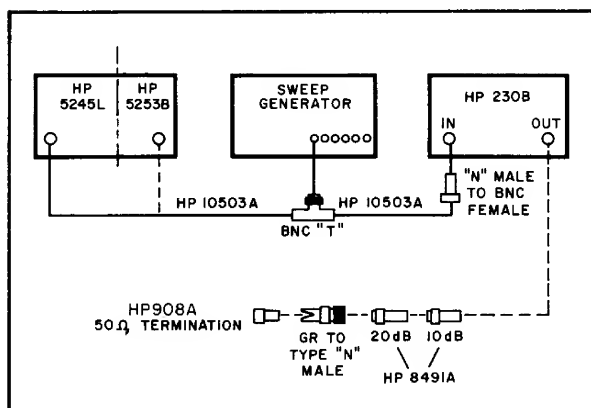

Figure 5-1. 230B Frequency Accuracy Test Setup
- a. Connect equipment as shown in Figure 5-1.